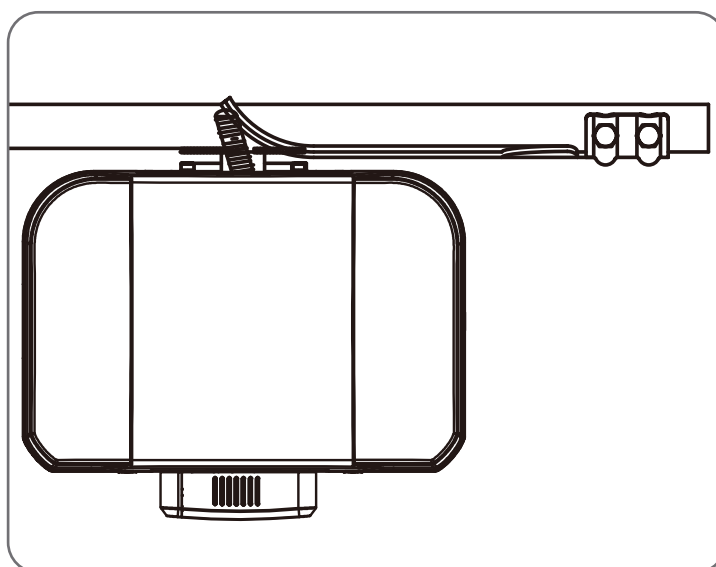

Fig 4.2
- Place the metal base plate (3) and Drive unit (1) in position. If satisfied with the position, remove the Drive Unit and metal base plate (Fig. 4.2).
- Mark the position of the four holes in the metal base plate (3). Drill the four holes.
- Hammer the dynabolts (4) into position, place metal base plate and fix with the four washers, spring washers and nuts (4).
- Put Drive unit (1) onto metal base plate and affix with bolts and washers provided. Remember when tightening the bolts to allow fine adjustment of the NeoSlider™ later on.